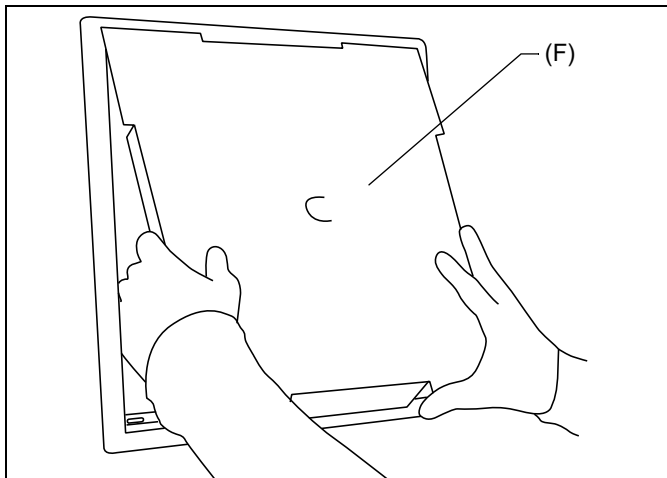

Figure 14
1. Fold tabs of template (F) in and insert into PAC527L opening. (See Figure 14)